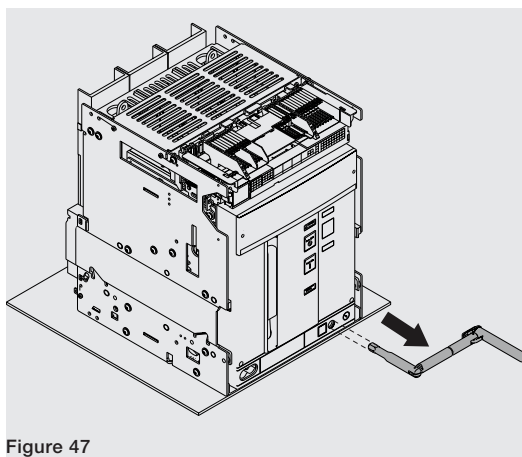

Figure 47
11. Extract the crank. See Figure 47.